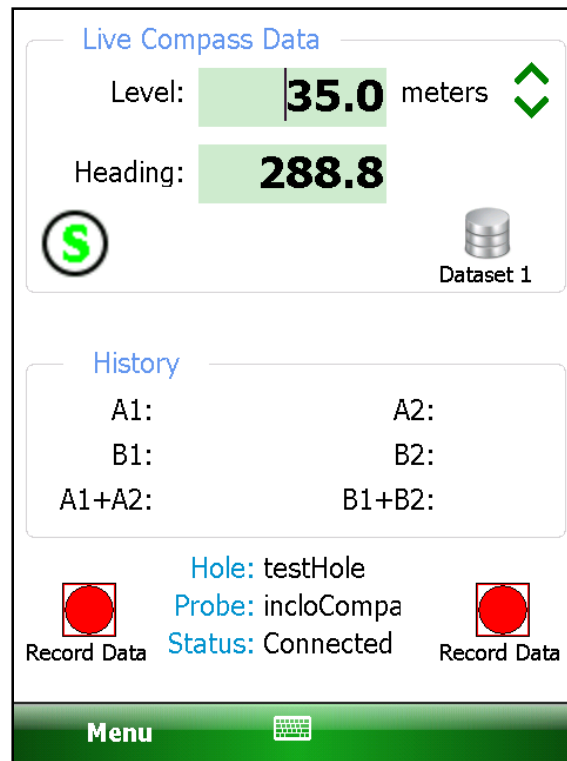

Figure 100 - Live Compass Data
7. With the compass enabled, a survey is performed as normal (see Section 3.3.1) and the compass heading can be displayed at any level by tapping on “Menu->View Compass Data”, displaying the screen shown in Figure 100.